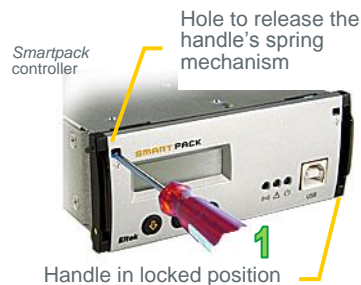

Figure 5 Removing the *Smartpack* controller
To access the CAN bus termination plug from the *Smartpack* controller’s rear CAN port, release (1) both handle springs — see Figure 5, page 10 — and use both handles to cautiously pull out the module. Be careful, as cables are connected to its rear.